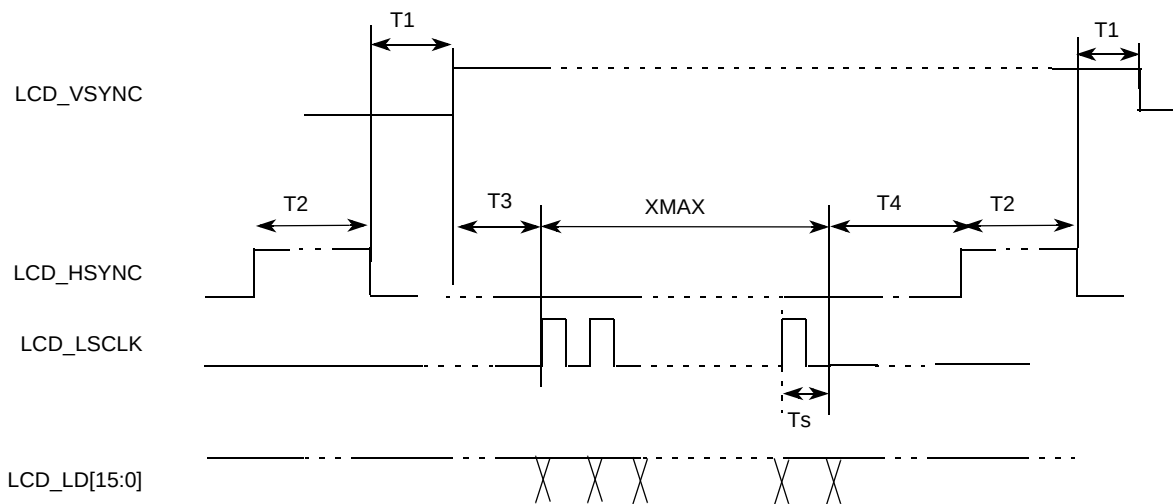

**Figure 18. Non-TFT Mode Panel Timing**
**Note:** Ts is the LCD\_LSCLK period while Tpix is the pixel clock period. LCD\_VSYNC, LCD\_HSYNC and LCD\_LSCLK can be programmed as active high or active low. In Figure 18, all three signals are active high. When it is in CSTN mode or monochrome mode with bus width = 1, T3 = Tpix = Ts. When it is in monochrome mode with bus width = 2, 4 and 8, T3 = 1, 2 and 4 Tpix respectively.